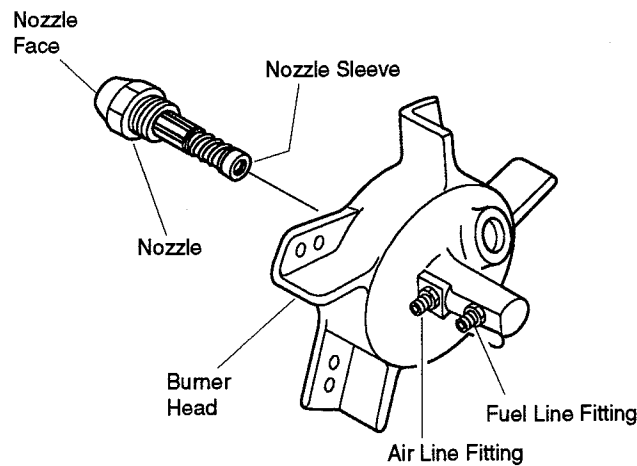

Figure 28 - Removing Nozzle, Models 3E218C and 3E219C
8. Carefully remove nozzle from burner head using 5/8" socket wrench (see Figure 28).